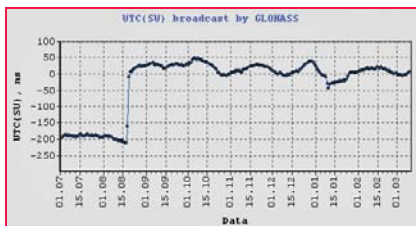

Figure 2: UTC(SU) broadcast by GLONASS
Till 18th August, 2014 the error of broadcast corrections for GLONASS Time - UTC(SU) offset contained a systematic component of approximately 200 ns. Therefore, on 18th August, 2014 the generated corrections to GLONASS Time were also changed. Now the error of broadcast corrections for GLONASS Time - UTC(SU) offset does not exceed 10 ns (rms). UTC(SU) broadcast by GLONASS is presented in Figure 2.